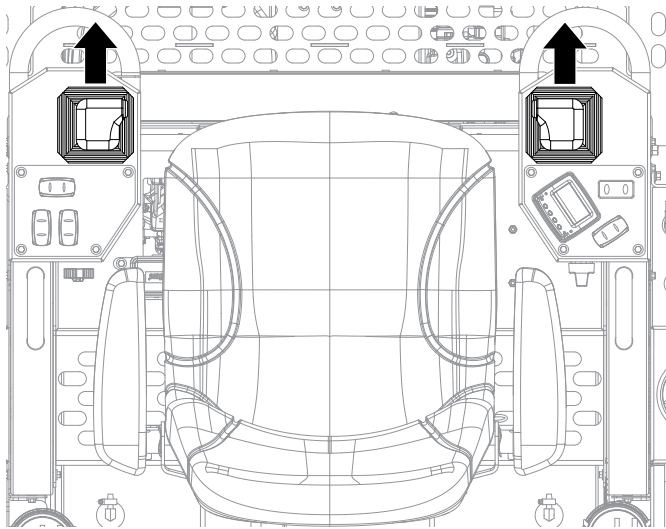

Figure 25. Joysticks (Forward)
1. Push both the left and right joysticks **forward** (Figure 25).